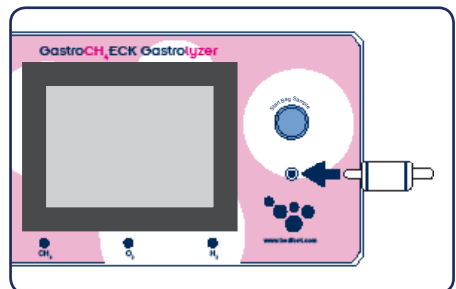

fig. 4
4. Push desiccant filter onto bag sampling port for breath bag sampling. (Fig. 4)